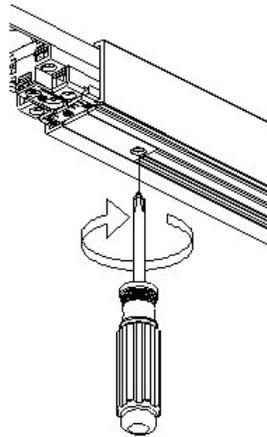

Fig 4a: Live End Connector Track Engagement
1. Slide live end connector into track and secured screw (Fig 4a).